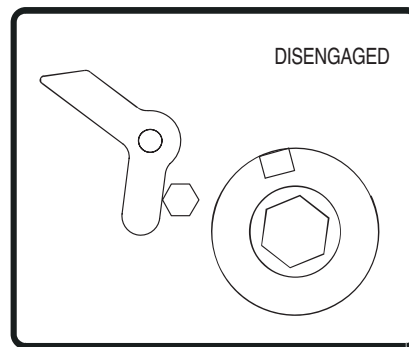

FIGURE 2b
4. Disengage roller stop pawl. ( *See Figure 2b.* )